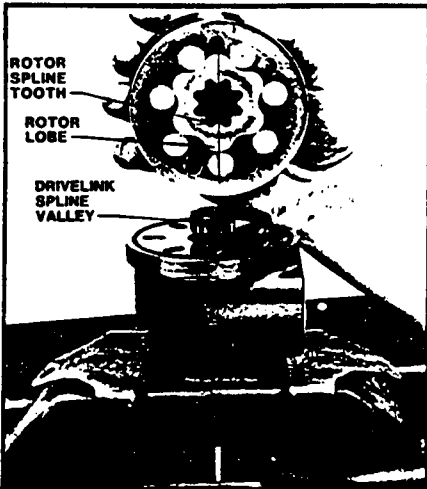
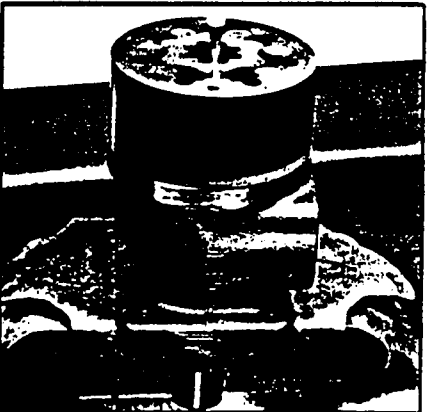
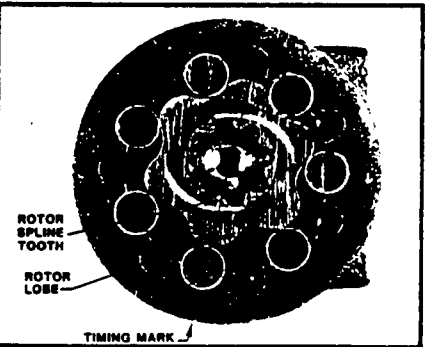

Figure 50
Figure 51
Figure 52
18. Locate on the rotor (6A) the only two spline teeth, 180° apart, that are diametrically aligned (on the same center line) with two rotor lobes. SEE FIGURE 50. Take the rotor set (6), seal ring (5) and wearplate (7) as a unit and align these two just located rotor spline teeth to mesh with the two drive link (8) spline valleys that are diametrically aligned with the timing mark on the coupling shaft (11) and install this unit onto the housing (15) with the wearplate against the housing. SEE FIGURE 51. With the rotor set (6) now correctly in mesh with the drive link, rotate the rotor set (6) wearplate (7) drive link (8) and coupling shaft (11) to align the stator (6B) and wearplate bolt holes with the bolt holes in the housing. SEE FIGURE 52.